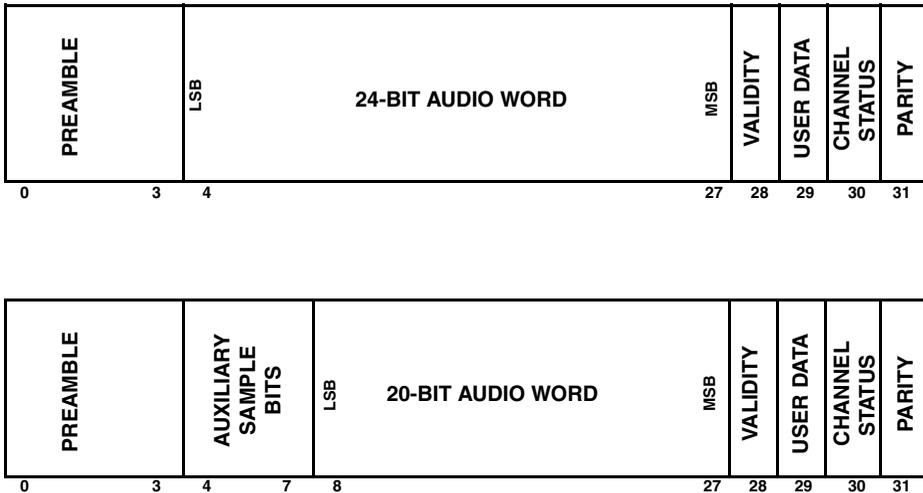

Figure C-5. Subframe Format
- The biphase encoded AES3 stream is composed of subframes (Figure C-5 on page C-13). Subframes consist of a preamble, four auxiliary bits, a 20-bit audio word, a validity bit, a user bit, a channel status bit, and a parity bit.
Each frame consists of two subframes. Figure C-5 shows an illustration of a subframe, which consists of 32 time slots numbered 0 to 31. A subframe is 64 unit intervals in length. The first four time slots of each subframe carry the preamble information. The preamble marks the subframe start and identifies the subframe type. The next 24 time slots carry the audio sample data, which is transmitted in a 24-bit word with the least significant bit (LSB) first. When a 20-bit coding range is sufficient, time slots 8 to 27 carry the audio sample word with the LSB in time slot 8. Time slots 4 to 7 may be used for other applications. Under these circumstances, the bits in time slots 4 to 7 are designated auxiliary sample bits. If the source provides fewer bits than the interface allows (either 20 or 24), the unused LSBs are set to logic 0.